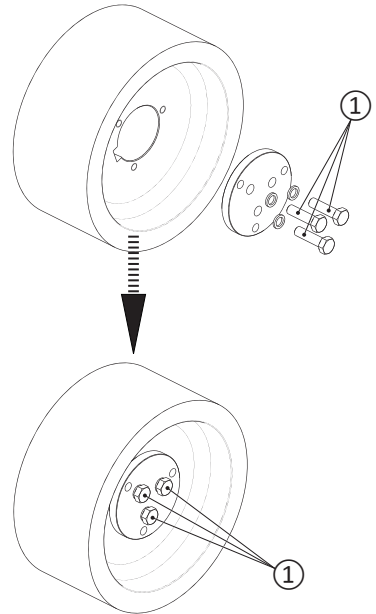

Figure 5
- Position the securing plate, grower and bolts as shown in "Figure 5".
- Tighten the bolts ① in circular sequence to a torque of 90 Nm.
① VITI M12x50 (Ø120) M12x60 (Ø160/200/210)